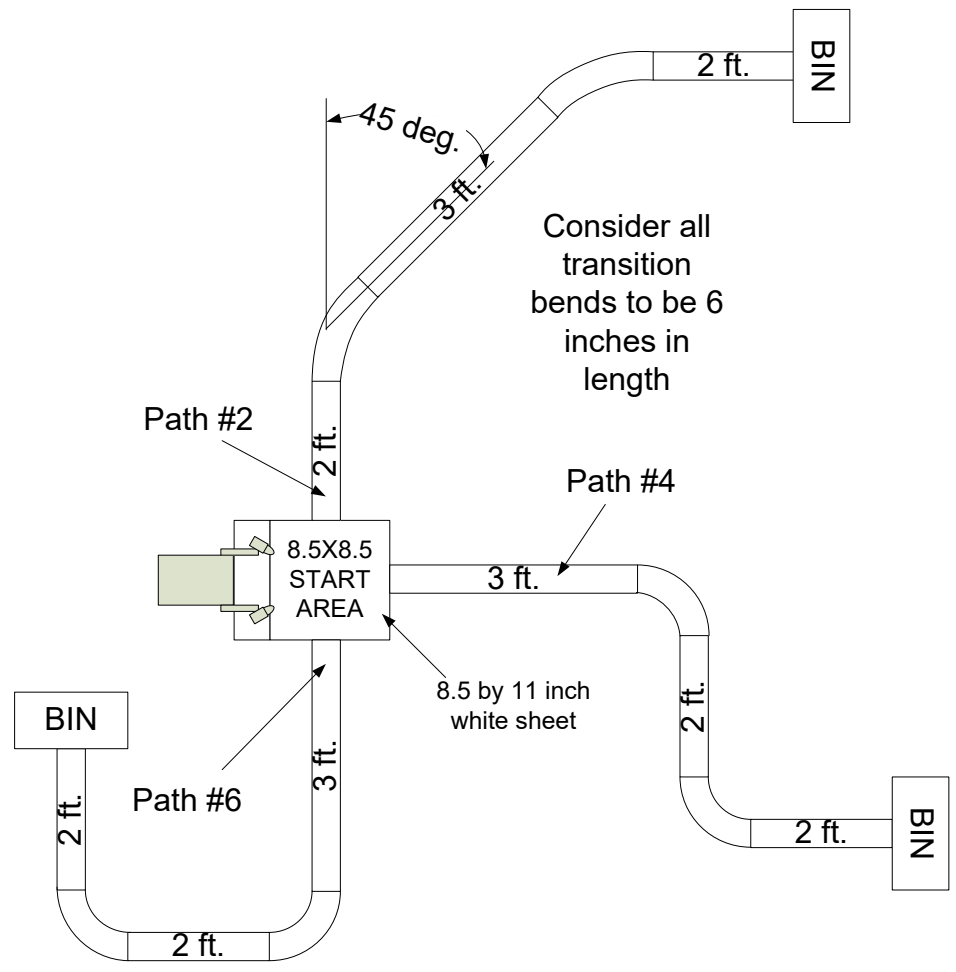

Fig. 3
- The robot prototype is to be programmed to accurately follow (nominal transit time $20\text{sec} \pm 2\text{sec}$) one of three paths (each has a unique dispatch number). The path is defined by a one-inch wide, meandering dark line down the middle of a light, six-inch wide background (see figure 3). The length and orientation of each path segment is predefined by the customer. The robot is to carry a stock item as it travels and accurately drop that item into a stock bin at the end of the designated path. An open, anchored box (see figure 2) at the end of each path serves as the stock bin. The box is positioned 6 inches (on a straight line) from the end of the travel path. The robot does not know which path it will take until it gets a number flashed to it from a dispatch robot.